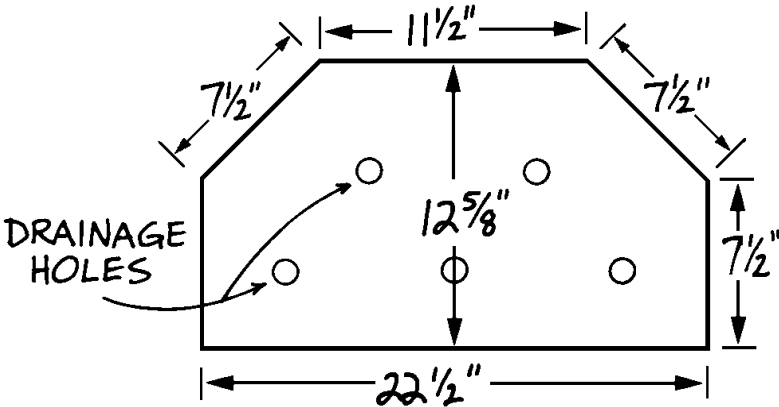

Figure 2
- 1. Using *Figure 2* as a guide cut four identical pieces from 3/4" thick exterior-grade plywood. Two pieces will be bases (E) and two will be bottoms (F) for the planters.
- 2. To allow for drainage, drill five 1"-diameter holes in each base (E) and bottom (F), as shown in *Figure 2*. The exact placement of these holes is not important.